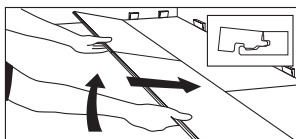

Figure 7
- Angle up and push forward until the boards lock together. A tapping block may be necessary to lock in place (Fig. 7).